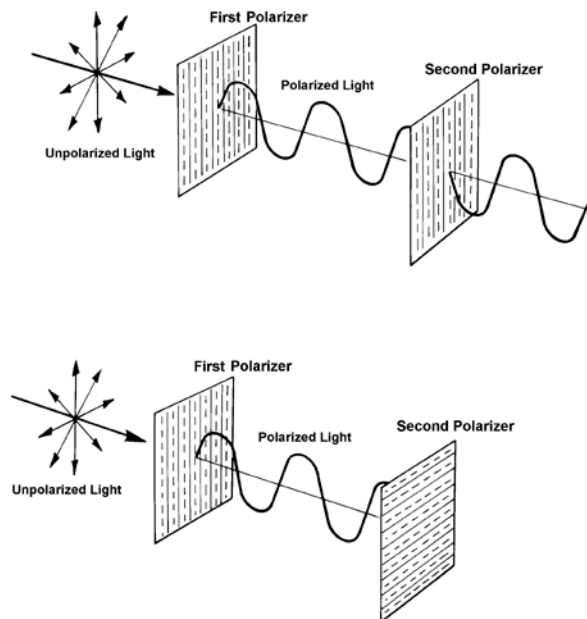

Figure 25 Polarizers parallel (top) and polarizers crossed (bottom)
- If the second polarizer is placed in the same direction as the first (as at the top of Figure 25), the polarized light can pass straight through.
- However, if the second is placed at a right angle to the first, a situation which is referred to as crossed polarizers, the passage of the polarized light is blocked, that is, extinction occurs (as at the bottom of Figure 25).